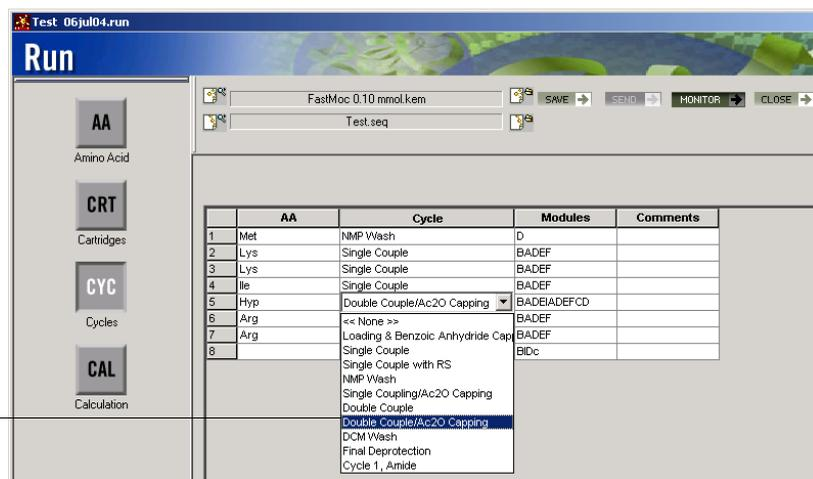

Figure 6-7 Changing the Default Cycle
2. Click the cycle cell for the cycle you want to change (Figure 6-7).